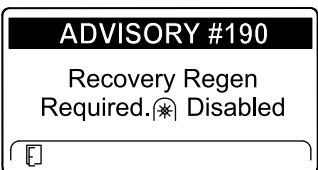

Figure 80
- Recovery regeneration required—power takeoff disabled ADVISORY #190 (Figure 80)